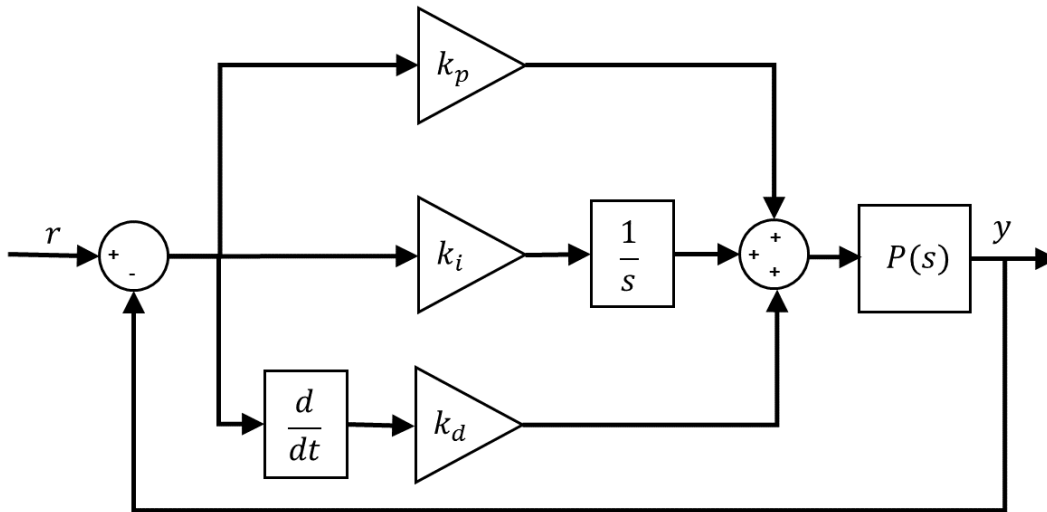

Figure 1.1: Block diagram of PID control
The corresponding block diagram is given in Figure 1.1. The control action is a sum of three terms referred to as proportional (P), integral (I) and derivative (D) control gain. The controller Equation 1.2 can also be described by the transfer function